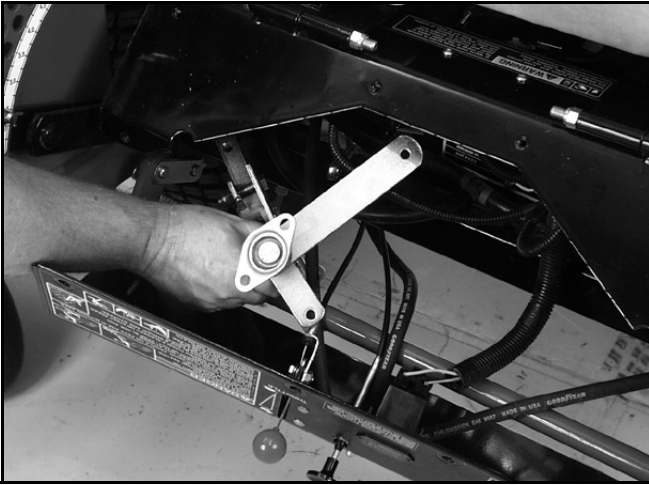

Figure 75
9. Carefully remove the bell crank from the chassis (Figure 75).